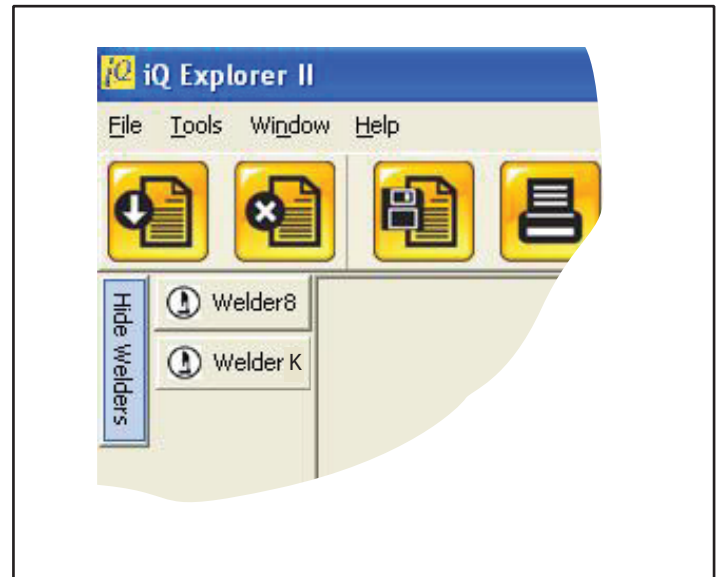

Figure 3-4 Show Welders - 2
3. An example list of available welders is shown in Figure 3-4 to the right. Notice that the button has changed to **Hide Welders**.